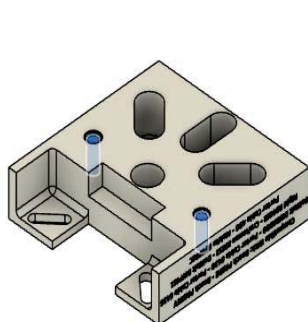

Figure 0-9
- 2 holes at the bottom of the router plate (this is opposite of the cutout for the bearing). Refer to Figure 0-9